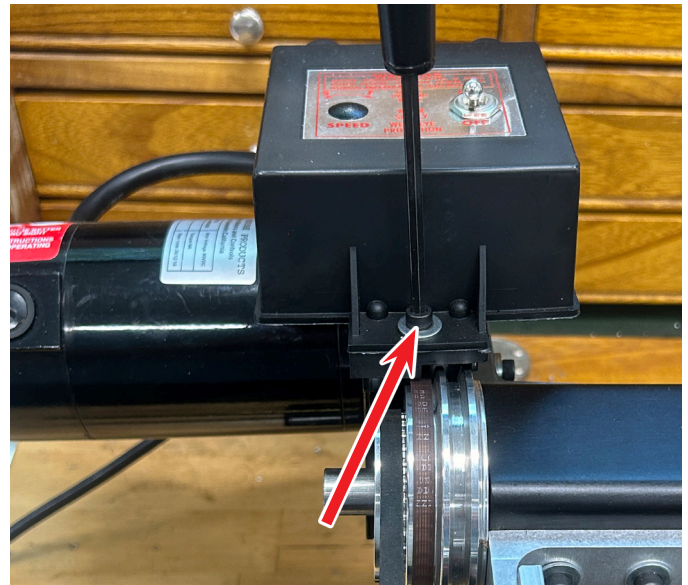

FIGURE 2
- A. Unscrew the speed control clamping screw (see Figure 2).